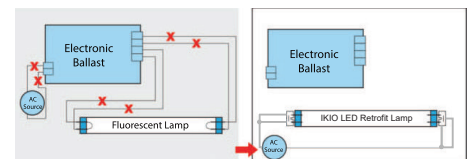

Figure 2. - Retrofit with One Lamp
7. Wire using appropriate wiring diagram. (Figure 2, 3, 4).